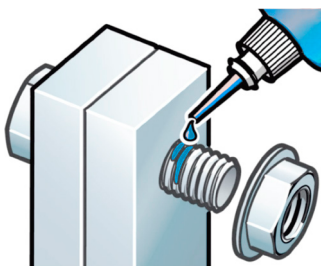

FIG 1
2. Insert bolt and apply adhesive to the exposed thread. Assemble nut and tighten to the correct torque (FIG 1).